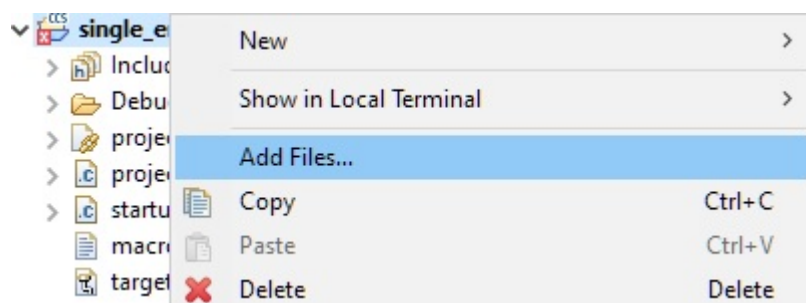

Figure 3-3. Add Files Option for CCS Project
1. Go to the CCS project and right click on the project name to bring up the options menu for the project (Figure 3-3).